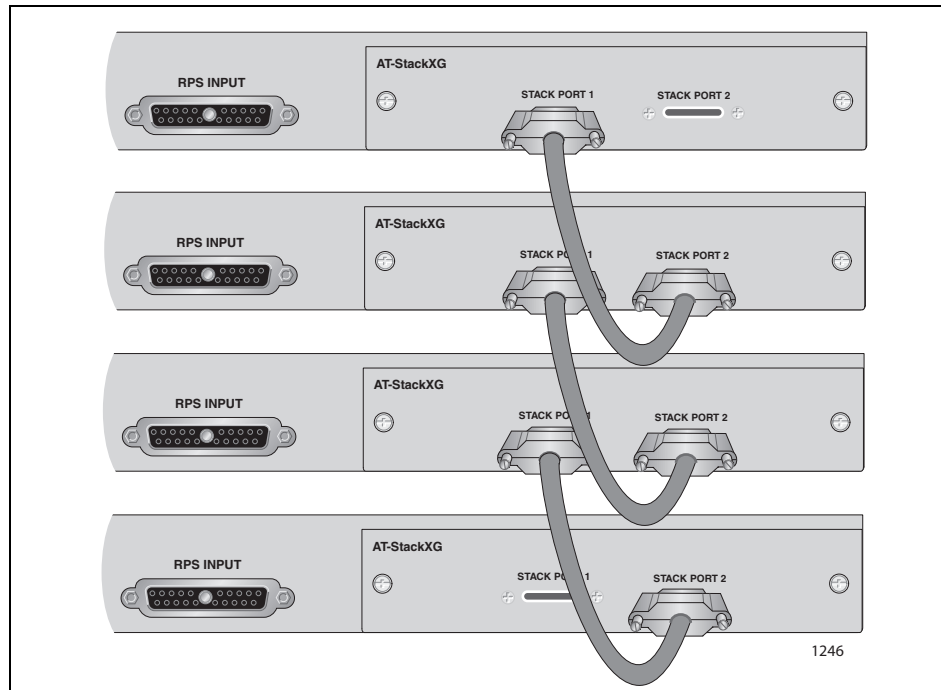

Figure 26. Example of a Cabling Configuration for a Stack with Four Switches
4. Repeat steps 1, 2, and 3 to cable the remaining switches of the stack with the AT-StackXG/.5 Stacking Cables. Figure 26 illustrates the cabling configuration for a stack of four switches.